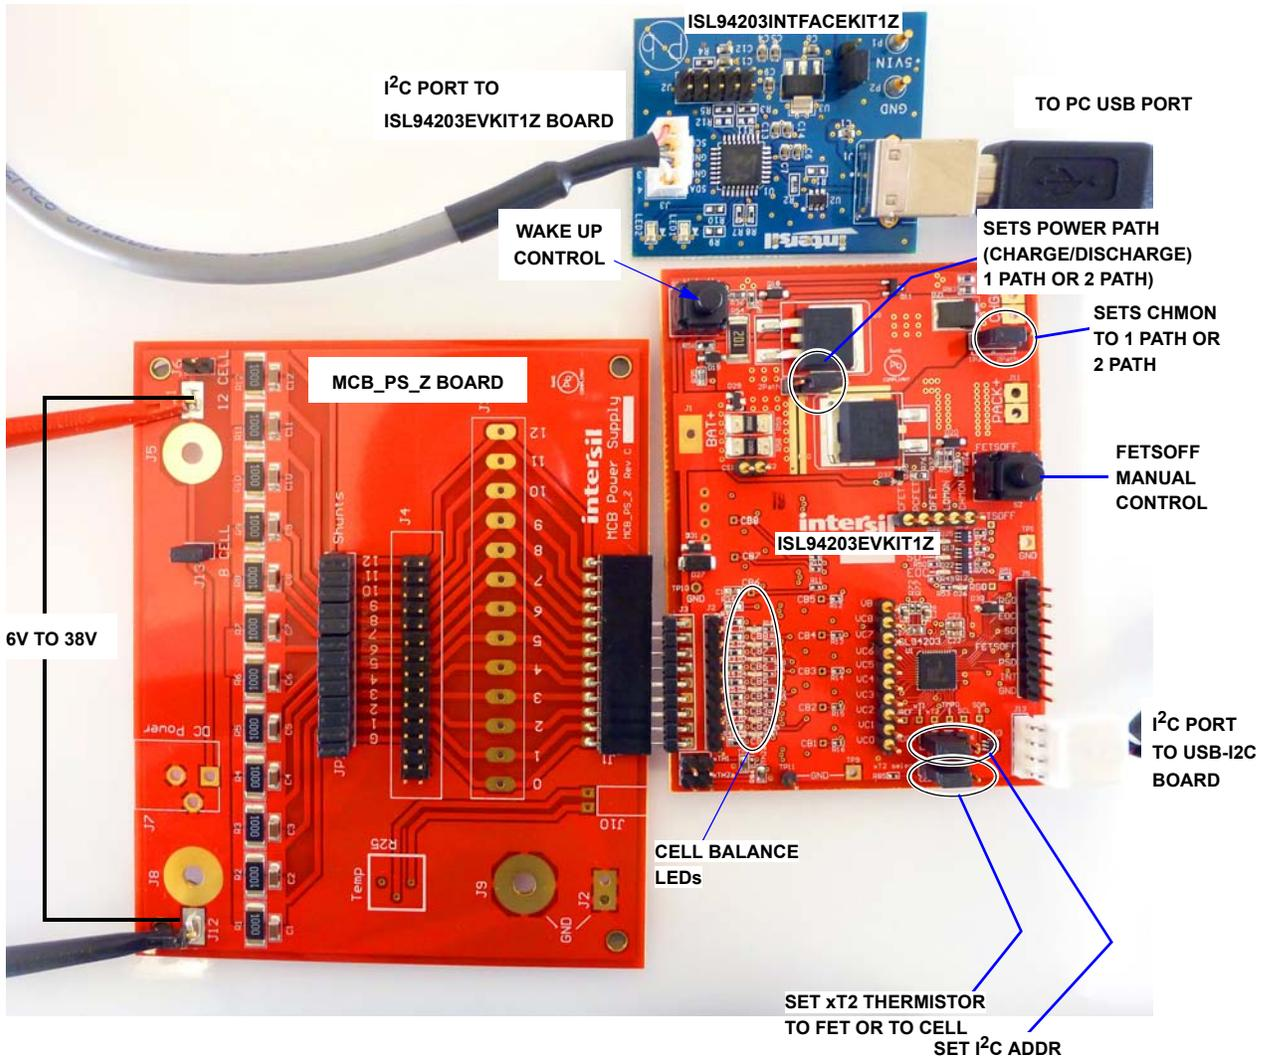

FIGURE 2. ISL94203EVKIT1Z BOARD SETUP
**Step 5:** Connect the ISL94203 board directly to the MCB\_PS\_Z board at connector J1. Make sure the board is connected on the ground side of J1 (see Figure 2).